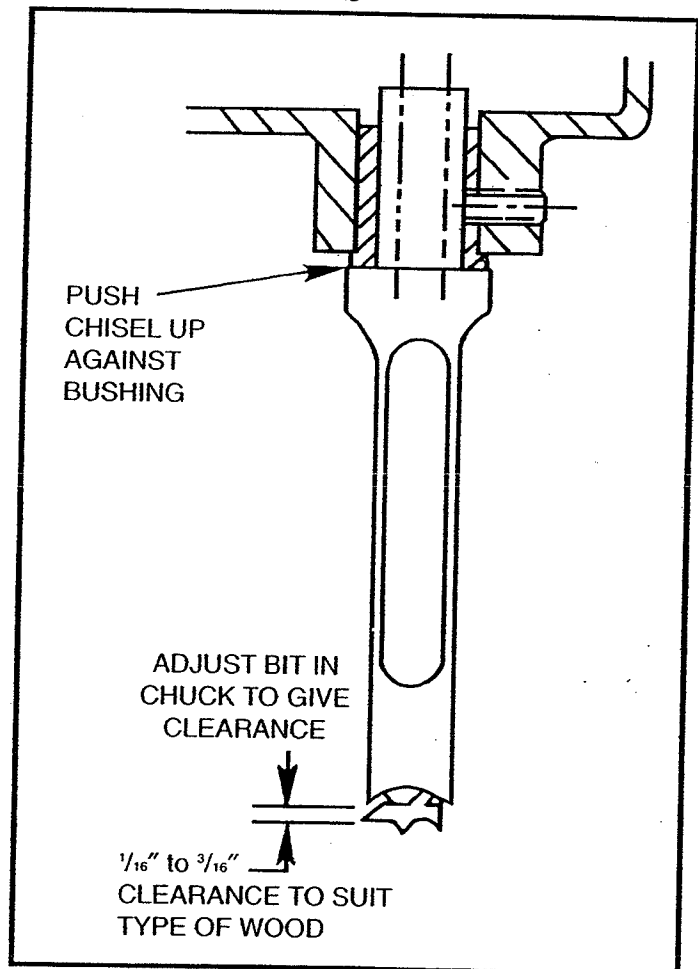

Fig. 25
6. The flat portion of the bit should be adjusted to a minimum of $1/16$ " away from the bottom of the chisel, as shown in Fig. 25. For certain types of wood it may be necessary to increase this distance up to a maximum of $3/16$ " clearance. This method assures having proper clearance between the cutting lips of the bit and the points of the chisel.